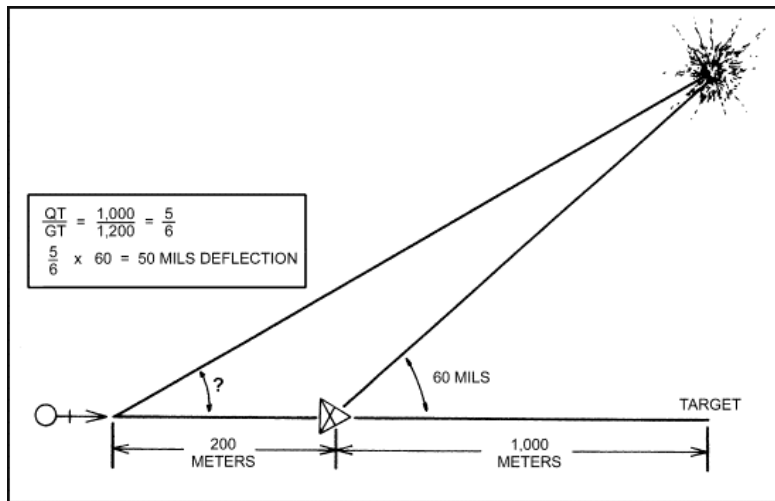

Figure 8-5. Observer more than 100 meters from the mortar but within 100 meters of the GT line.
- b. This first round bursts beyond the target and 20 mils to the left as shown in Figure 8-5. The squad leader issues a subsequent fire command correcting the deflection and decreasing the range between himself and the target, thereby establishing a bracket. He commands, RIGHT TWO ZERO (20), RANGE ONE SIX ZERO ZERO (1600).
c. The second round bursts between the FO and target and on the GT line as shown in Figure 8-5. The deflection is now correct, and a 200-meter bracket has been established. The squad leader's subsequent fire command is RANGE, ONE SEVEN ZERO ZERO (1700). The gunner selects the charge from his firing table, announces the charge to the first ammunition bearer, and when all is ready he commands, FIRE.